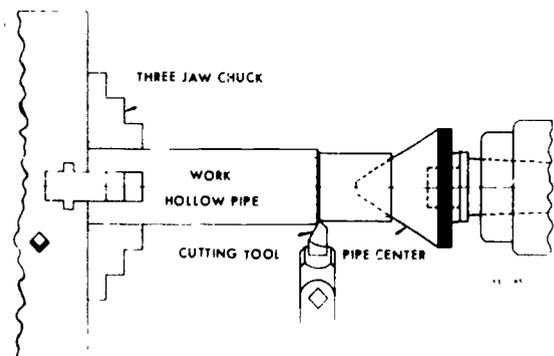

Figure 60. Supporting work with a pipe center.
h. *Pipe centers* are bearing centers with a very large conical point. They are inserted in the headstock and tailstock spindles to support pipe, tubular work, and other hollow work. As shown in figure 60, pipe centers are often used in conjunction with lathe chucks.